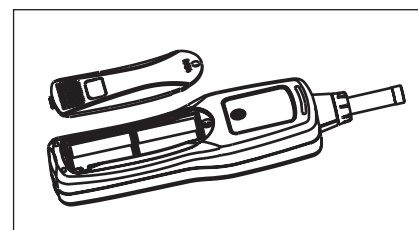

figure 5
B.Replacing the Battery (see figure 5)